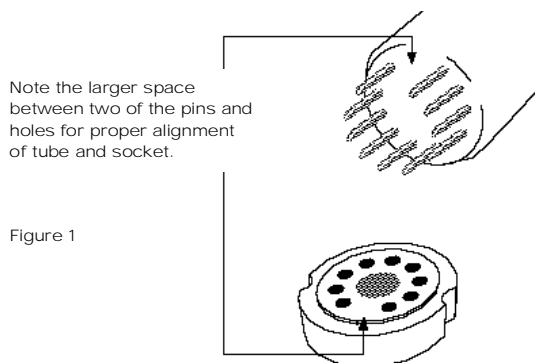
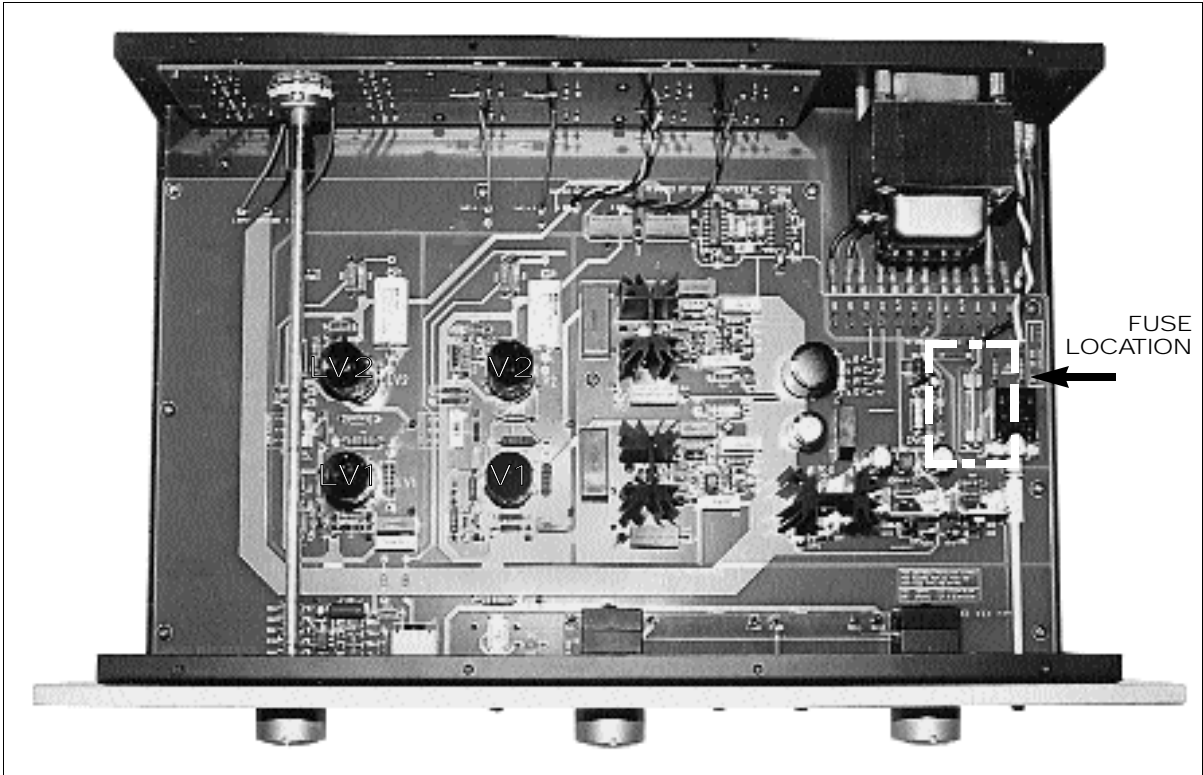

Figure 1
Figure 2 - Tube and Fuse Location
3. Noting the location of the tube sockets in the top view photo (Figure 2) or directly on the PC Board, inspect the tubes for corresponding labels and markings. Once locations are mapped, take a tube and inspect the pins, noting the larger space between two of the pins (see Figure 1). This space will match with the socket. Insert each tube into the appropriate tube socket, making sure all pins and pin holes are aligned. Do not force the tubes into the sockets. "Rock" the tubes gently while pushing slowly until each tube is firmly seated.